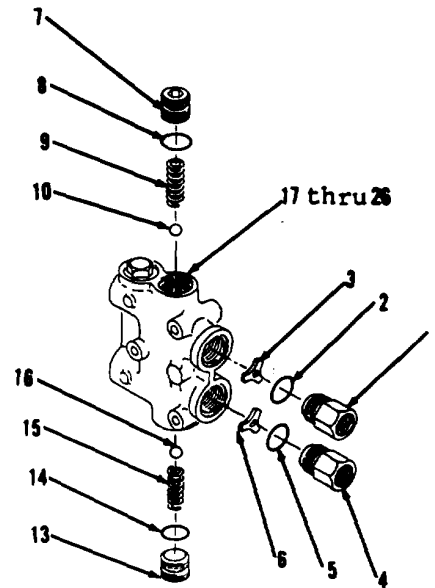

Figure 10-76.
7. Move piston (12) checking for free travel.
8. Install ball (16), spring (15), new preformed packing (14) and plug (13, Figure 10-76). Tighten plug (13) to 25 ft-lb torque.
9. Install ball (10), spring (9), new preformed packing (8) and plug (7). Tighten plug (7) to 25 ft-lb torque.
10. Install choke (6), new preformed packing (5) and adapter (4). Tighten adapter (4) to 55 ft-lb torque.
11. Install choke (3), new preformed packing (2) and adapter (1). Tighten adapter (1) to 55 ft-lb torque.